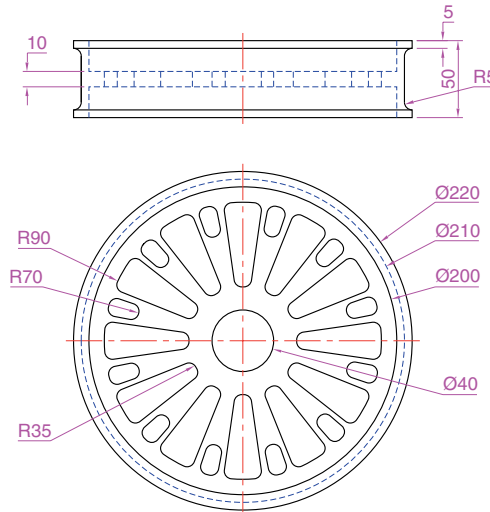

Fig. 18.17 Seventh example – Color faces tool – details of the 3D model
1. Construct a 3D model of the wheel to the sizes as shown in Fig. 18.17.